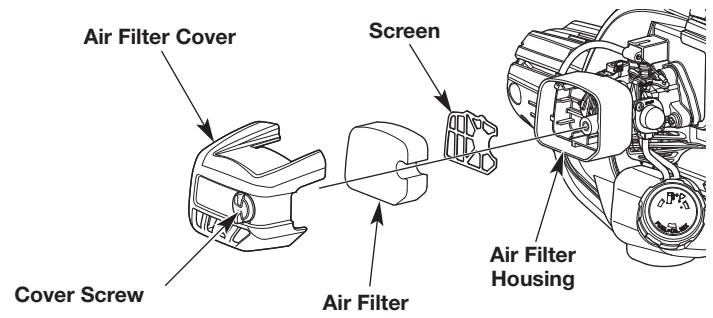

Fig. 10
1. Open the air filter cover by unscrewing the cover screw (Fig. 10).
2. Remove the air filter and the screen that sits behind it (Fig. 10).
6. Replace the air filter and the screen that sits behind it (Fig. 10).